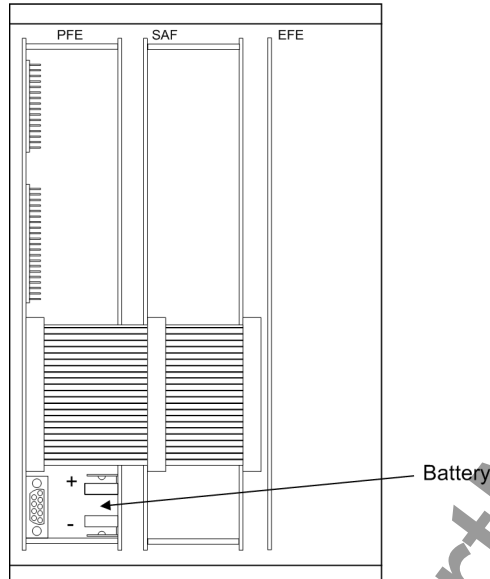
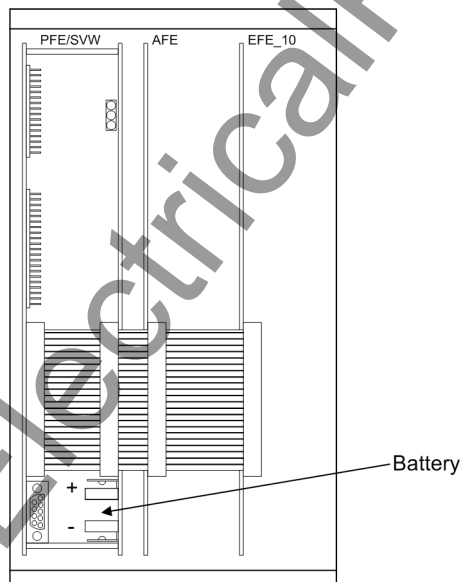

Figure 8-6 Front view after removing the front panel, and location of the buffer battery 7SS523
Figure 8-7 Front view after removing the front panel, and location of the buffer battery 7SS525
- ❑ The battery is located on the bottom front of the PFE module (Figure 8-6, page 296).
- ☐ Press the new battery firmly into its snap-in holder (see Figure 8-6, page 296 or Figure 8-7, page 296). **Observe the correct battery polarity!**
- ❑ The fine-wire fuse is located on the power supply module (SAF or PFE/SVW). The location of that module is shown in Figure 8-6, page 296 or Figure 8-7, page 296.